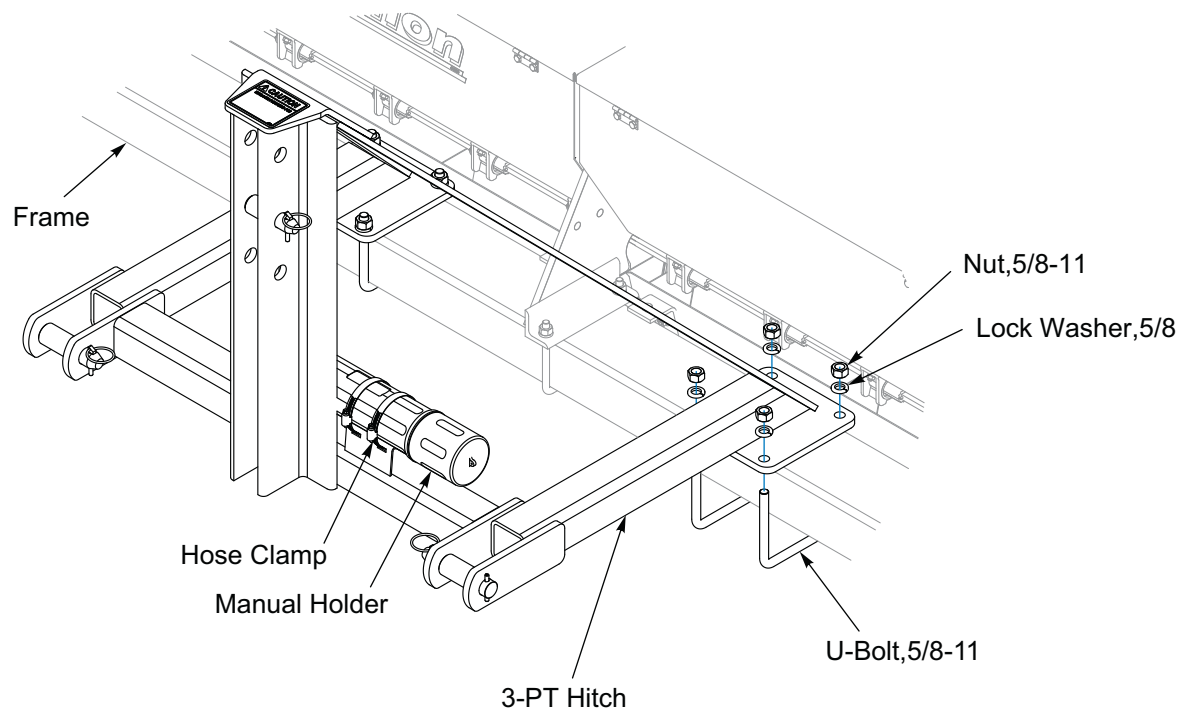

Figure 2-7: Attach 3-PT Hitch
2. Center 3-PT Hitch Assembly in relationship with the Seed Box Center Bracket. Attach 3-PT Hitch to Seeder Frame Tube with 5/8-11 U-Bolts, Lock Washers, and Nuts. **See Figure 2-7.**